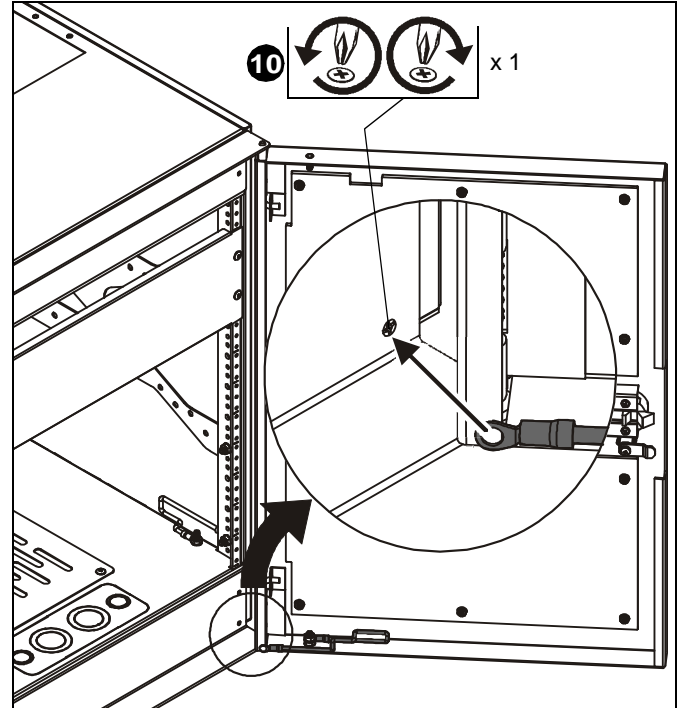

Figure 8
10. Loosen screw in lower door support, attach door grounding wire, and tighten screw to finish connection. (See Figure 8)